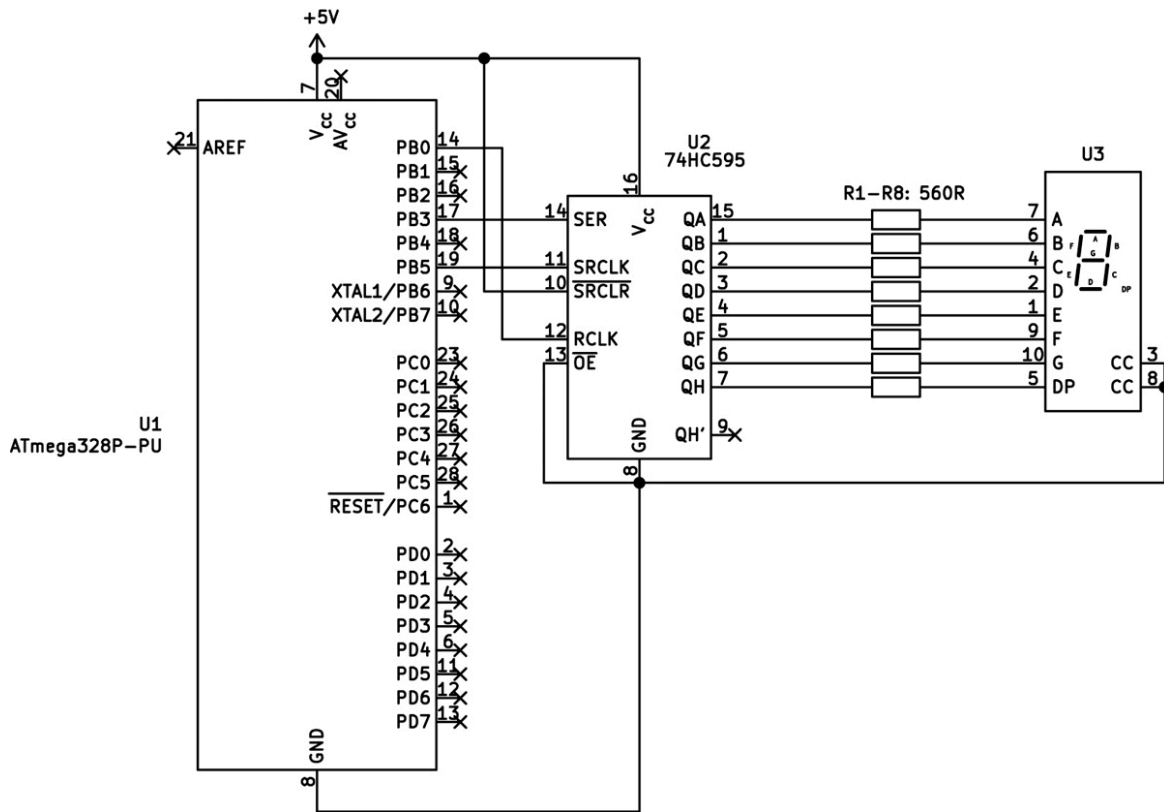

Figure 11-8: Schematic for Project 44
Assemble your circuit as shown in Figure 11-8.
The microcontroller sends each byte of data with the LSB first. The bits match the eight outputs on the 74HC595, which we wire to the LED display segments A–G and the decimal point, respectively, as shown in Figure 11-8. This byte of data is then placed in the SPDR register in each matching `case` statement. The code waits for the transfer to finish ❹, then sets the SS pin high to complete the data transmission.